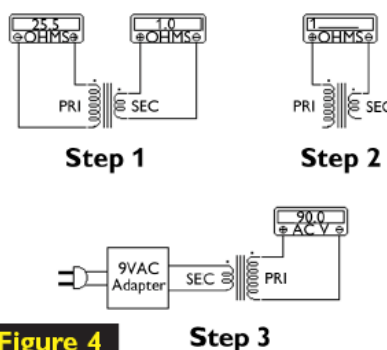

Figure 4
A. There are three steps to testing any kind of power transformer — and all three can be performed using nothing more than a volt/ohm meter and a tiny wall-wart (Figure 4). Before you begin, disconnect the transformer from the circuit.